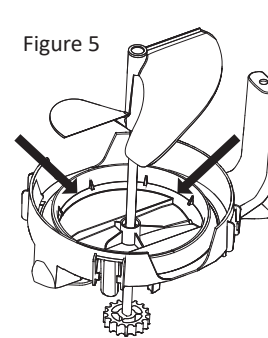

Figure 5
- Carefully pry along the bottom edge of the lock ring to loosen it. See Figure 5.